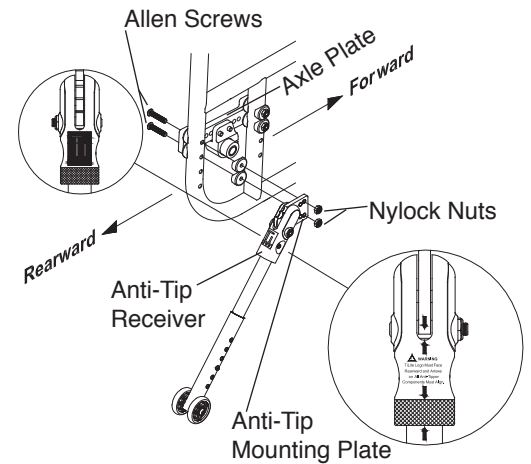

Figure 11
Do not disassemble the anti-tip mounting assembly (see Figure 11). *If you ignore this warning, you may fall, tip over or lose control of the wheelchair and seriously injure yourself or others or damage the wheelchair.*
2. Remove the Nylock Nuts and Allen Screws that secure the rearward end of the axle plate to the frame. See Figure 11.
4. ⚠ **WARNING:** Make sure that the TiLite logo is visible on the rearward side of the user-friendly anti-tip receivers as shown in Figure 11 and that the white arrows are all aligned on the opposite (forward) side of the anti-tip components as shown in Figure 11. *If you ignore this warning, you may fall, tip over or lose control of the wheelchair and seriously injure yourself or others or damage the wheelchair.*